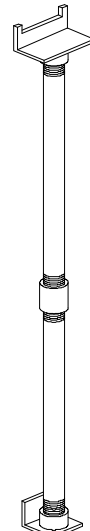

Figure 76
25. Screw the 36.22 cm (14.25 in.) support piece (P/N 3-0063-171-01-6) into the coupling, and replace the top of the brace to create a brace that is 74.93 cm (29.5 in.). Refer to Figure 76. Place the brace between the top chamber bracket and the 7 mm step of the front tunnel extrusion. Press Ctrl-PgDn to lower the hood until it is supported by the hood support brace.